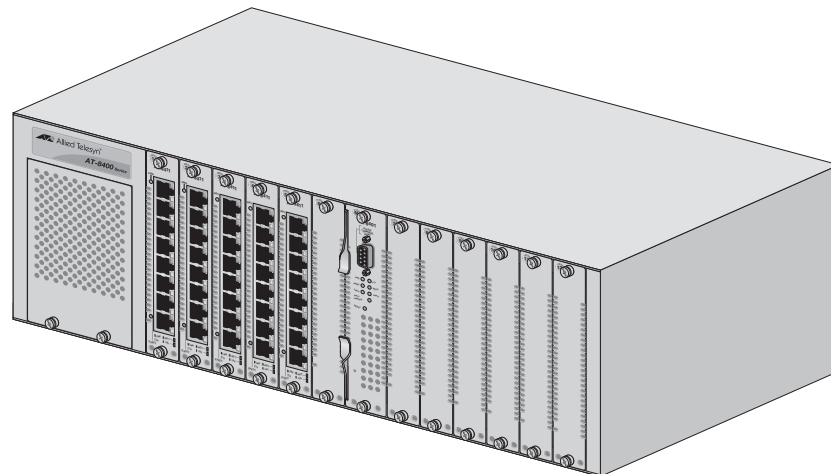

Figure 5 Desktop Installation
2. Place the chassis down on a level, secure surface. See Figure 5.